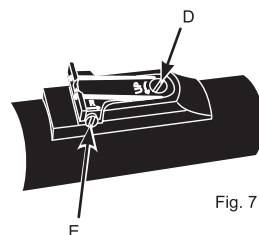

Fig. 7
The Browning Air Pistol is equipped with fiber optic sights. If the air pistol shoots low, turn the screw (D) clockwise ("UP") (See Fig. 7). If the air pistol shoots high, turn the screw (D) counterclockwise. If the air pistol shoots right turn the screw (E) counterclockwise. If the air pistol shoots left turn the screw (E) clockwise.